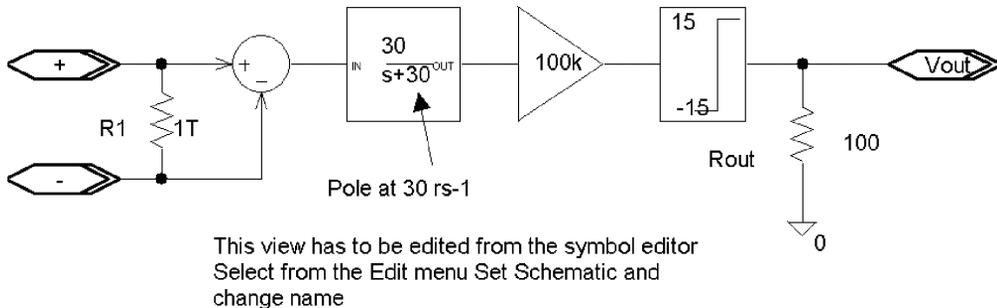

FIGURE 8.40: Constructing an opamp from ABM parts
- (7) Investigate the operational amplifier model using **ABM** parts shown in Fig. 8.40. The operational amplifier transfer function is entered in the **Laplace** part as a low-pass filter with a 30 rs^{-1} cut-off frequency (pole frequency $f_c = 4.78 \text{ Hz}$). The **Diff** part sums the input signals and the **Gain** part represents the very large open-loop gain of 100 k.